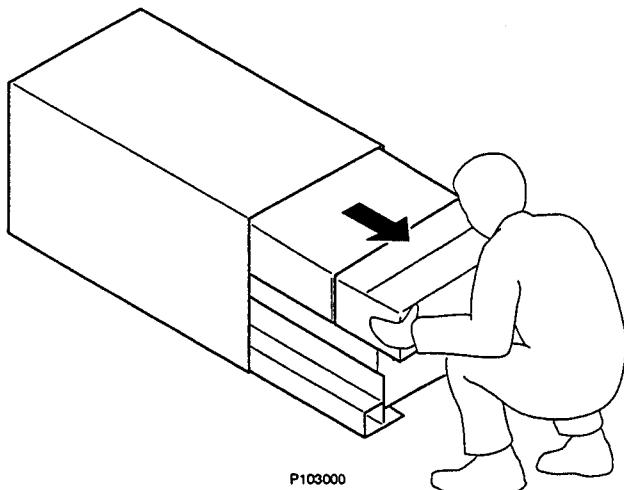

FIGURE 2: REMOVING GAME AND PARTS BOX
- 2) Two or more people should lay the carton on its side. Slide game and packing materials out from carton (see Figure 2). Open the parts box.